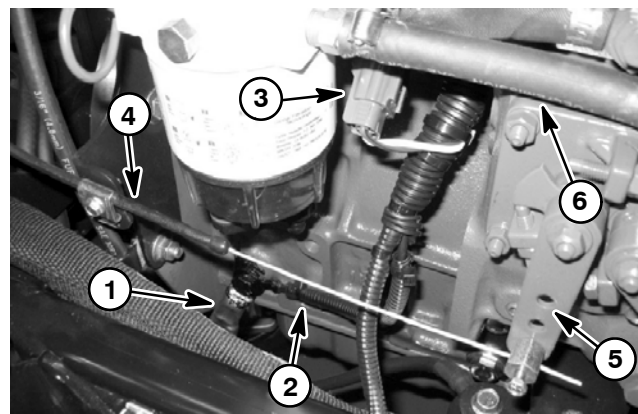

Figure 8
A. Negative battery cable, wire harness ground and fuel stop solenoid (Fig. 8).
9. Disconnect throttle cable from the throttle support bracket and swivel on the speed control lever (Fig. 8).
10. Disconnect fuel hoses from the fuel/water separator (Fig. 8). Position disconnected hose from fuel pump to prevent fuel leakage.
5. Secure three (3) engine mounts to the engine mounting brackets with cap screws, washers and flange nuts.
8. Connect fuel hose to the fuel/water separator (Fig. 8) and front injector nozzle.
- A. Negative battery cable and wire harness ground (Fig. 8). Torque the engine ground bolt to **34 to 42 ft-lbs (46 to 57 N-m)** and apply a coat of aerosol terminal protector.
14. Connect throttle cable to the support bracket and swivel on the speed control lever (Fig. 8).